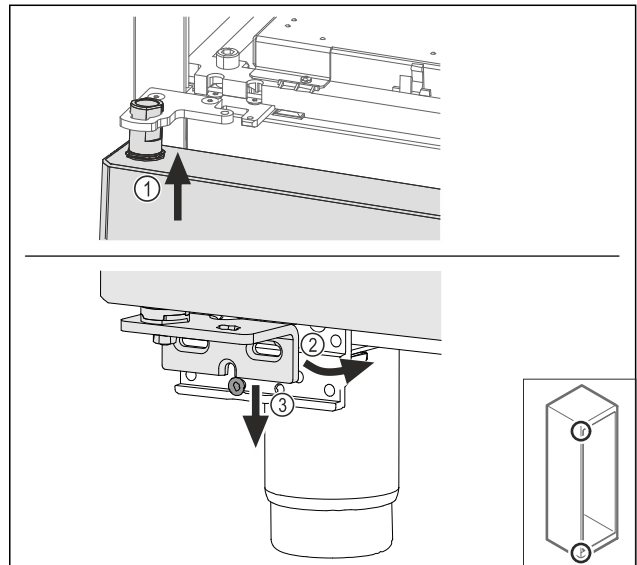

Fig. 68
- Feed in the door slightly tipped at the top Fig. 68 (1), align the door straight Fig. 68 (2) and fit the swap bearing blow screw Fig. 68 (3) at the bottom.